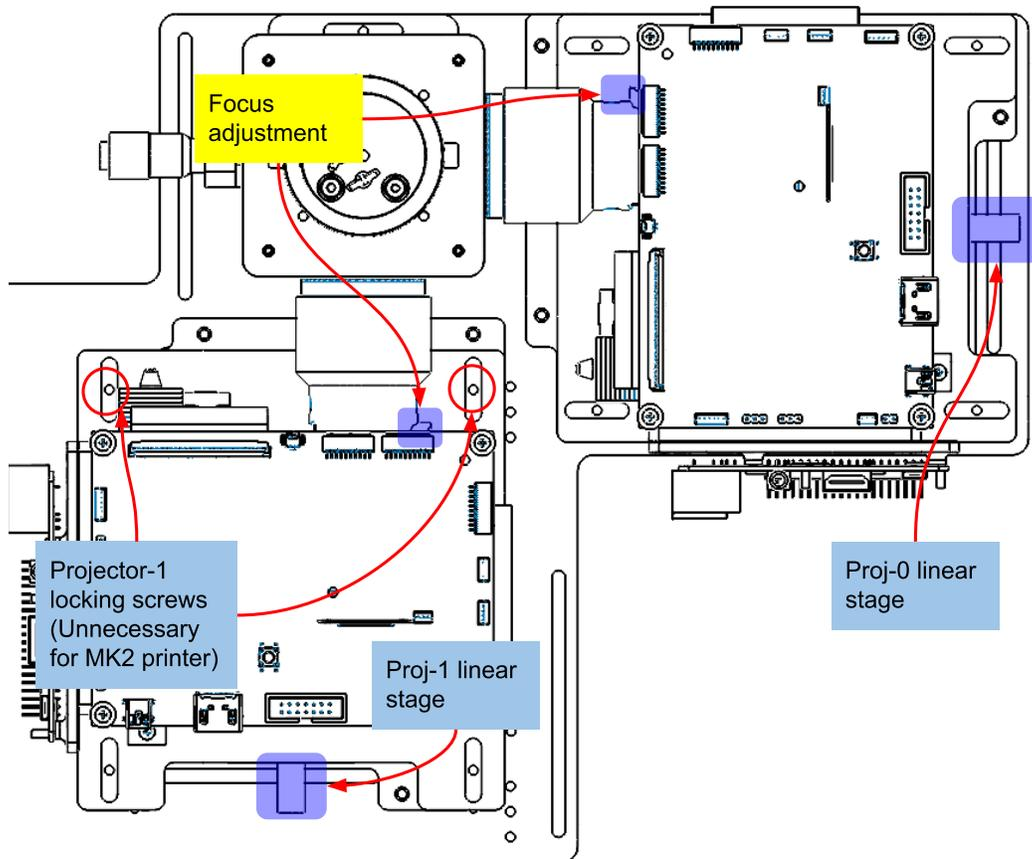

Fig. 19. Working distance and focus adjustment for matching a pixel size (MZ2 with 2 x E4750LC UV projectors)
- After moving the projector, the focus should be adjusted using the projection lens focus dials (Fig. 19)
- The first step is identifying the status of the alignment. **Fig. 19-A** shows the **Adv. control page** on the printer to project UV (405 nm) and Green grids from two projectors.
- If you adjust the **Global zoom**, the grid size will change and you will find an optimal parameter as shown in **Fig. 19-D**.
- Then move the grids by XY Translation values (**Fig. 19-C, E**) to obtain final alignment (**Fig. 19-F**).